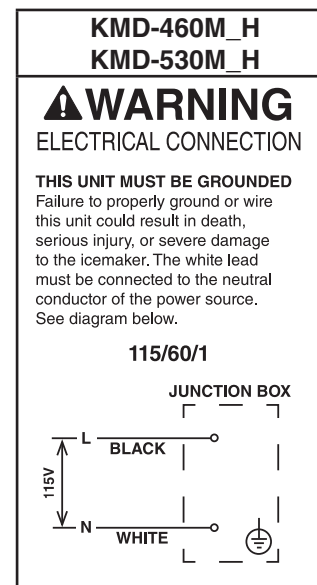

Fig. 6
- Electrical connection must be made in accordance with the instructions on the "WARNING" tag, provided with the pig tail leads in the junction box. See Fig. 6.